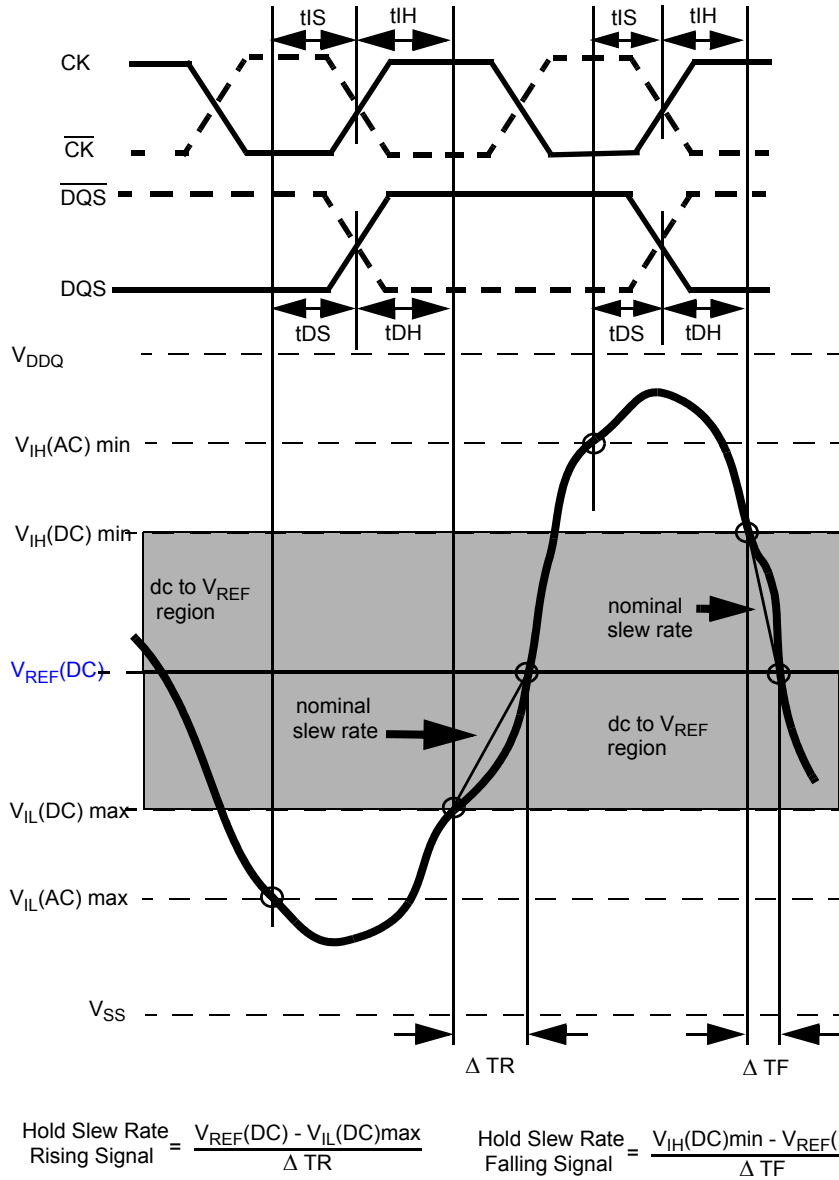
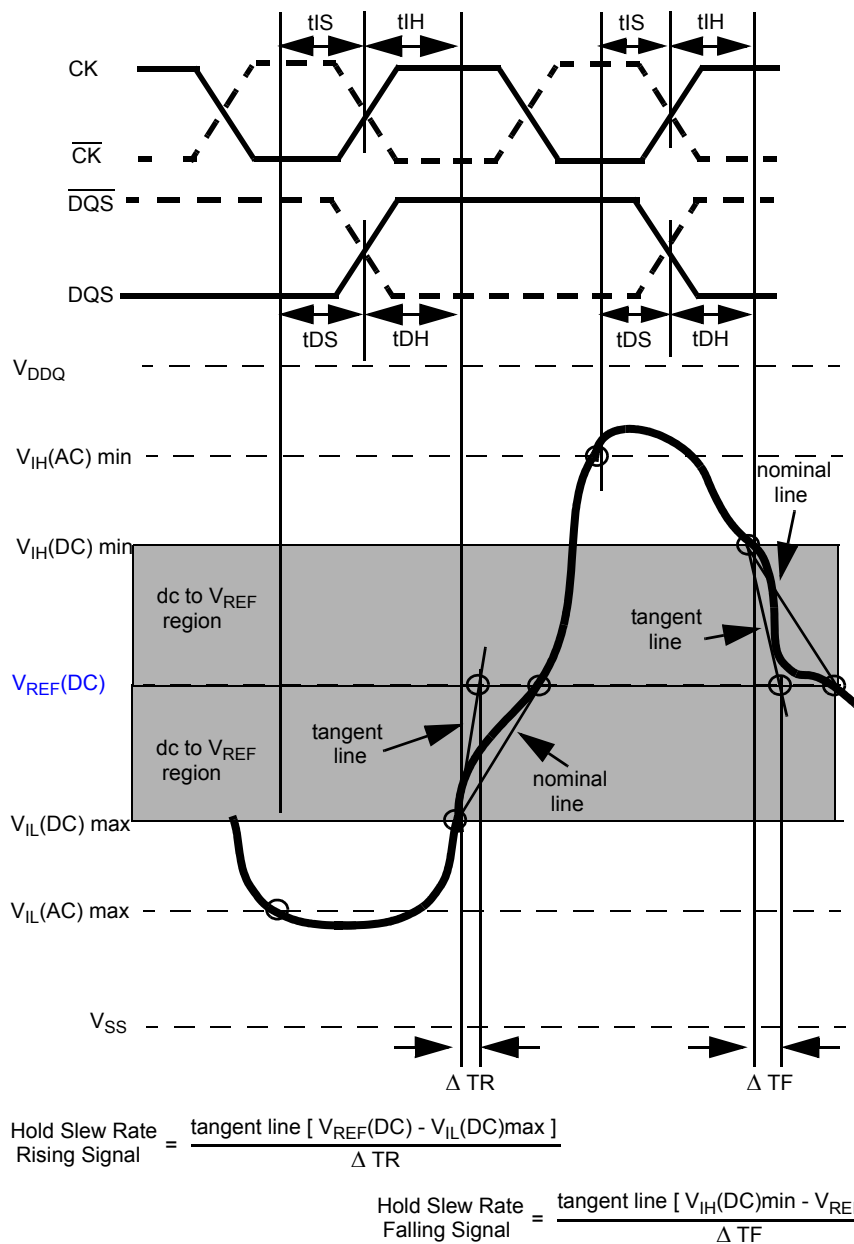

Figure 22. Illustration of nominal slew rate for hold time t_{DH} (for DQ with respect to strobe) and t_{IH} (for ADD/CMD with respect to clock).
Figure 24. Illustration of tangent line for hold time t_{DH} (for DQ with respect to strobe) and t_{IH} (for ADD/CMD with respect to clock)
Hold (tIH) nominal slew rate for a rising signal is defined as the slew rate between the last crossing of VIL(DC)min and the first crossing of VREF(DC). Hold (tIH) nominal slew rate for a falling signal is defined as the slew rate between the last crossing of VIH(DC)min and the first crossing of VREF(DC). If the actual signal is always later than the nominal slew rate line between shaded 'dc to VREF(DC) region', use nominal slew rate for derating value (see Figure 22). If the actual signal is earlier than the nominal slew rate line anywhere between shaded 'dc to VREF(DC) region', the slew rate of a tangent line to the actual signal from the dc level to VREF(DC) level is used for derating value (see Figure 24).